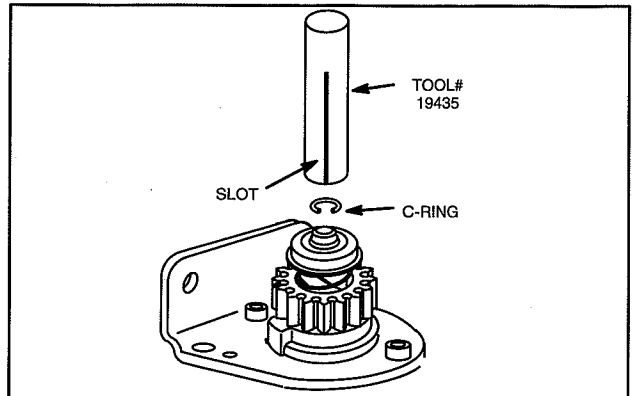

Fig. 13 – Installing C-Ring
5. Press or drive C-Ring on until it snaps into groove in shaft, Fig. 13.